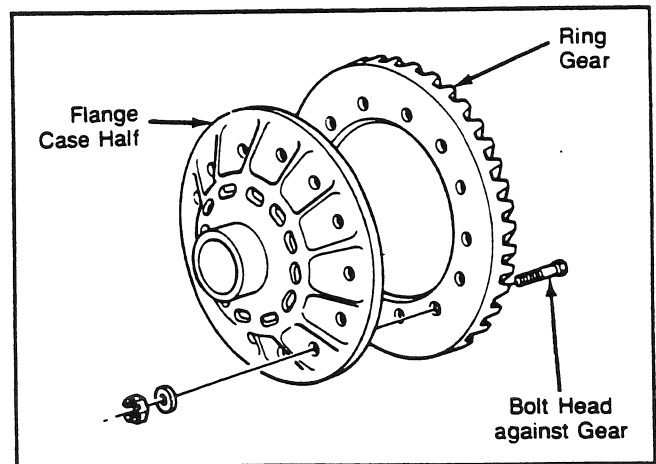

Fig. 52
3. Align the bolt holes of the ring gear and flange case half. Install the bolts and nuts retaining the ring gear to the flange case half. Install the bolts from the gear side of the assembly. The bolt heads must be against the ring gear (see Fig. 52). Tighten the nuts to the specified torque.